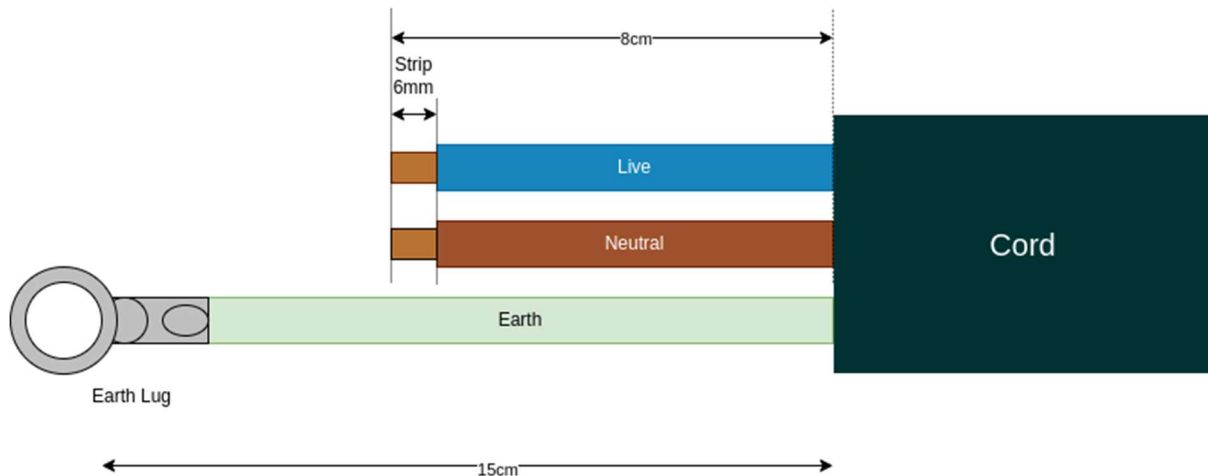

Figure 4.2. STEPS 5 – 8: Preparation of AC cord to wire between AC disconnect switch and the Elon Smart thermostat.
5. Cut a 2.5mm² flexible cord for connecting Elon Smart to the AC disconnect switch (see **Figure 4.2**).